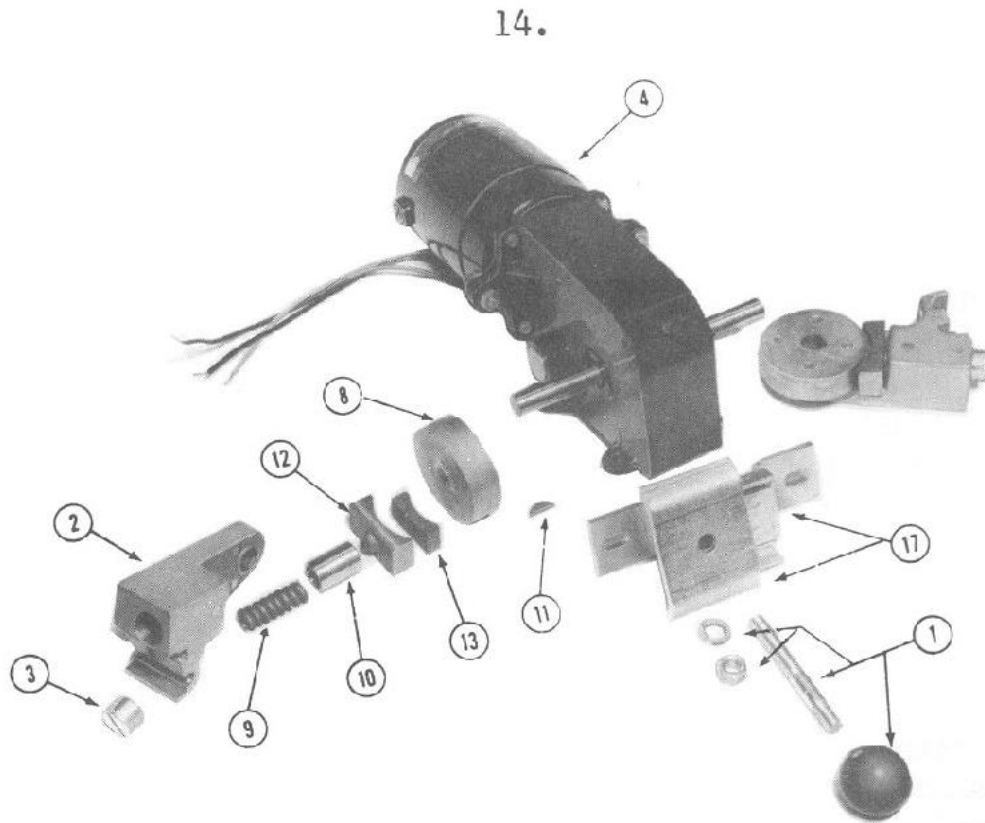

Figure 1.
The operating mechanism, pictured in Figure 1 (page 20), is used in Styles 2, and Style 3 transfer switches. The motor (4) is a universal type, reversible motor and is shipped as a complete component including the gearbox. The gearbox is a sealed unit, which should never require maintenance or attention. Because of the wide range of molded case switches used on Lake Shore Electric Transfer Switches, if motor replacement is necessary, please specify the serial number and model number of the transfer switch.